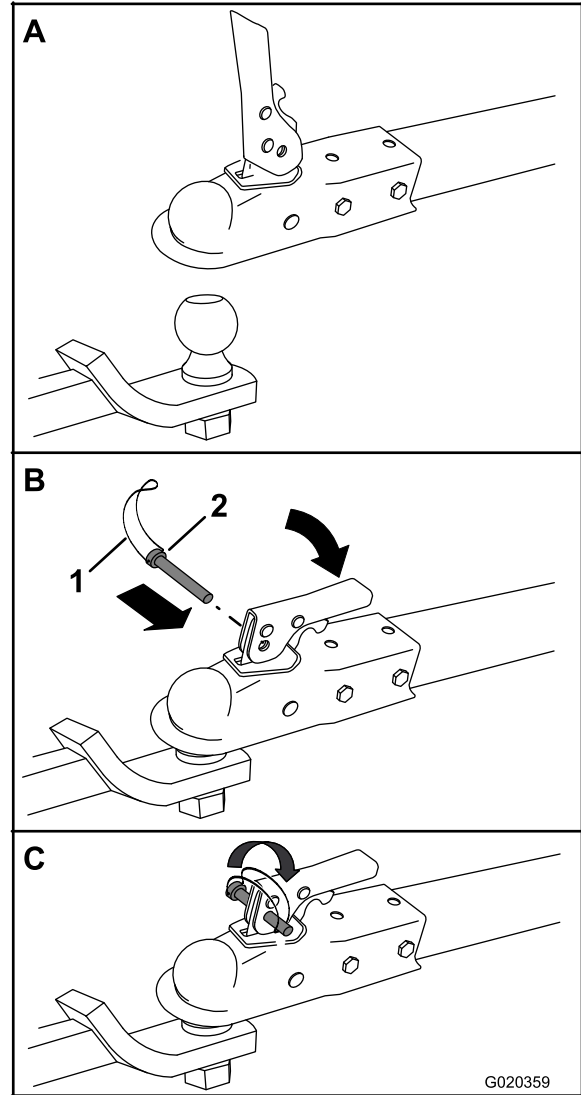

Figure 17
- Open the coupler latch (Figure 17).
- Position the coupler on top of the hitch ball (Figure 17).
- Close the coupler latch (Figure 17).
- Open the bail on the safety pin and insert the pin through the hole in the latch (Figure 17).
- Rotate the free end of the bail over the end of the safety pin that is protruding through the latch (Figure 17).